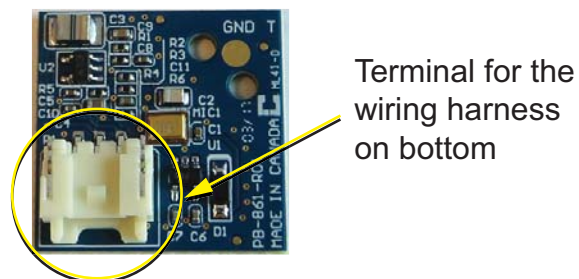

Figure 4 Proper alignment of the of the microphone board
5. Align the microphone so that the terminal for the wiring harness is on the bottom (see Figure 4).